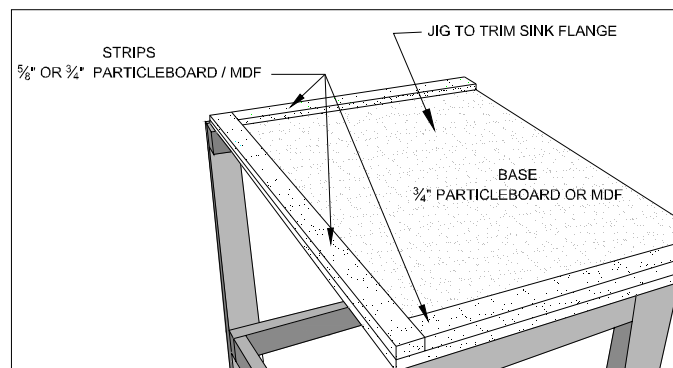

Figure 2B
- If thicker than listed above, make a jig to trim the bottom of the sink flange. (FIG. 2B)